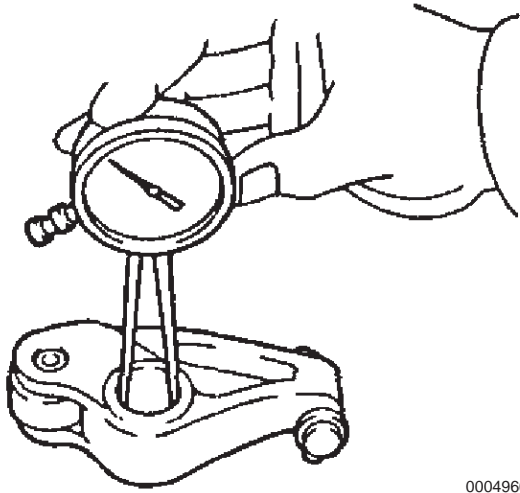

Figure 5-41
3. Measure the inside diameter of the rocker arm using a caliper gauge (**Figure 5-41**).